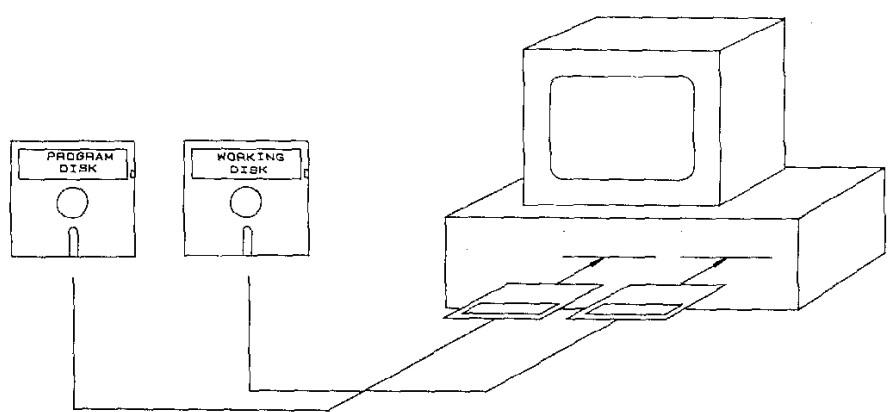

FIGURE 3.4
- Step 11** — Insert the Program Disk supplied with the Data Logging package into drive A (see Figure 3.4). Close drive A. Leave the newly formatted disk in drive B.